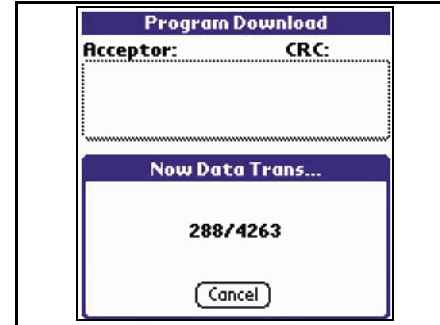

Figure 13 Download Progress Screen
5. During transfer, the status box shown in Figure 13 on page 17 will indicate the software download progress.